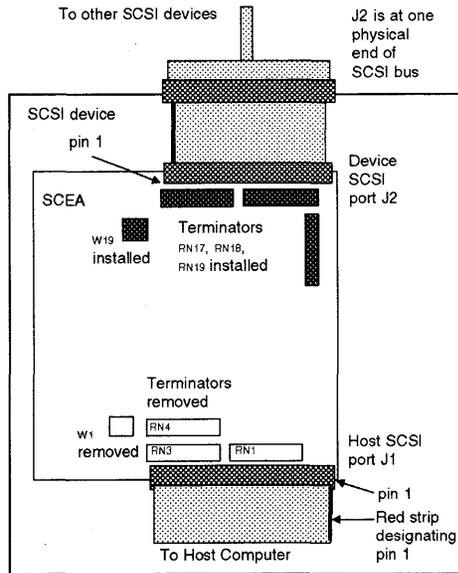

Figure 4: SCSI Port termination
- 7 Terminate each *physical* end of the SCSI bus connected to J1. If SCEA is at one end of the SCSI bus, install terminators RN1, RN3 and RN4 at J1 (numbers must face J1) otherwise remove them. See Figure 4.
- 8 Remove jumper shunt in W1 to disable TERMPWR at J1. Put jumper shunt in W1 to supply TERMPWR (if host computer is not supplying terminator power); see Figure 4.
- SCSI devices can be terminated directly on the device (see manufacturer's documentation) or by using an external terminator as shown in Figure 4.
- 5 For terminator power put jumper shunt in W19 (this allows for +5-volts to be sent to the external terminator at the end of the SCSI bus). Remove W19 if you do not want the SCEA to supply TERMPWR. See Figure 4.